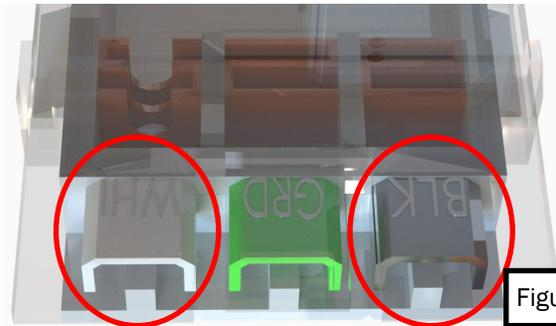

Figure 12
6. Using a multi-meter, test for continuity across the AC high-limit thermostat by placing one lead on the unit-side Molex connection as shown in figure 12.